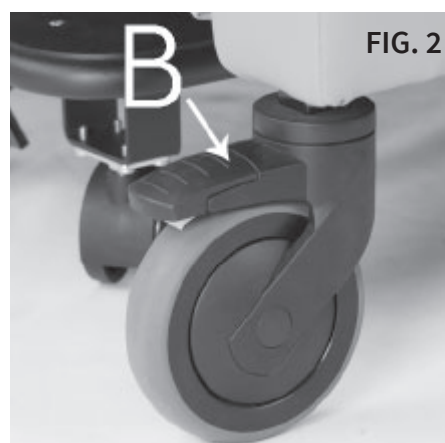

FIG. 2
2. **TO STORE:** Using your foot, LIFT UP on the foot plate lever (A) and PUSH IN on the foot plate at the same time until it is returned to the fully stored position. (FIG 2)